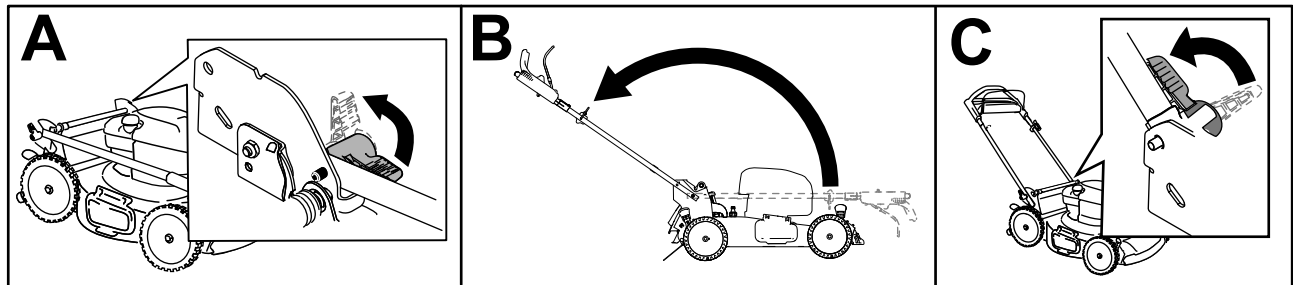

Figure 3
1. Unlock the handle (A of Figure 3).
2. Move the handle rearward to the operating position (B of Figure 3).
4. Engage the handle lock until the pin clicks in place to lock the handle into the operating position (C of Figure 3).